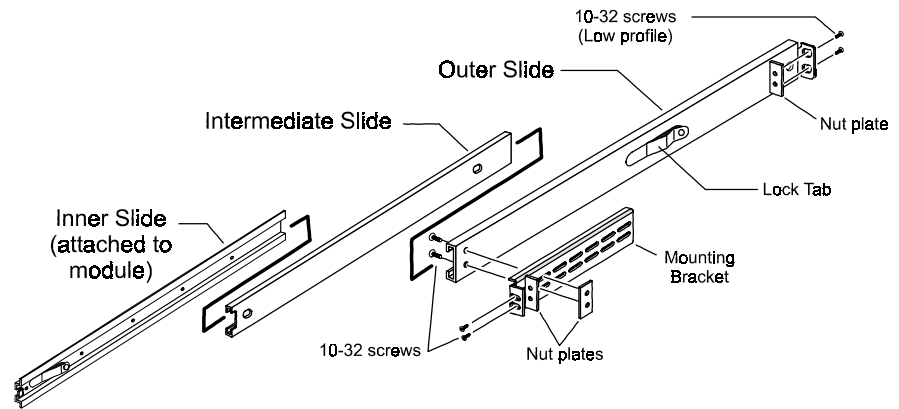

Figure 2-1 Rack Slide Parts
1. Refer to Figure 2-1 to identify and orient the parts of the slides. The slide is attached to the Base Module enclosure by means of three screws through the inner slide.